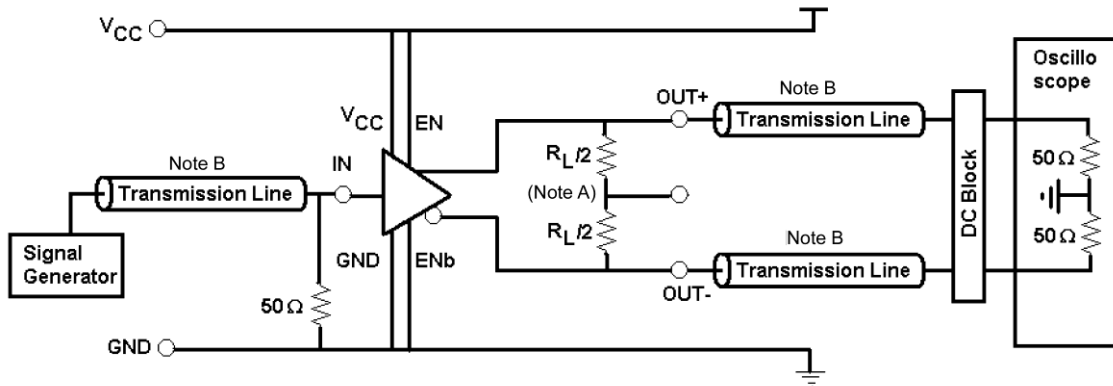
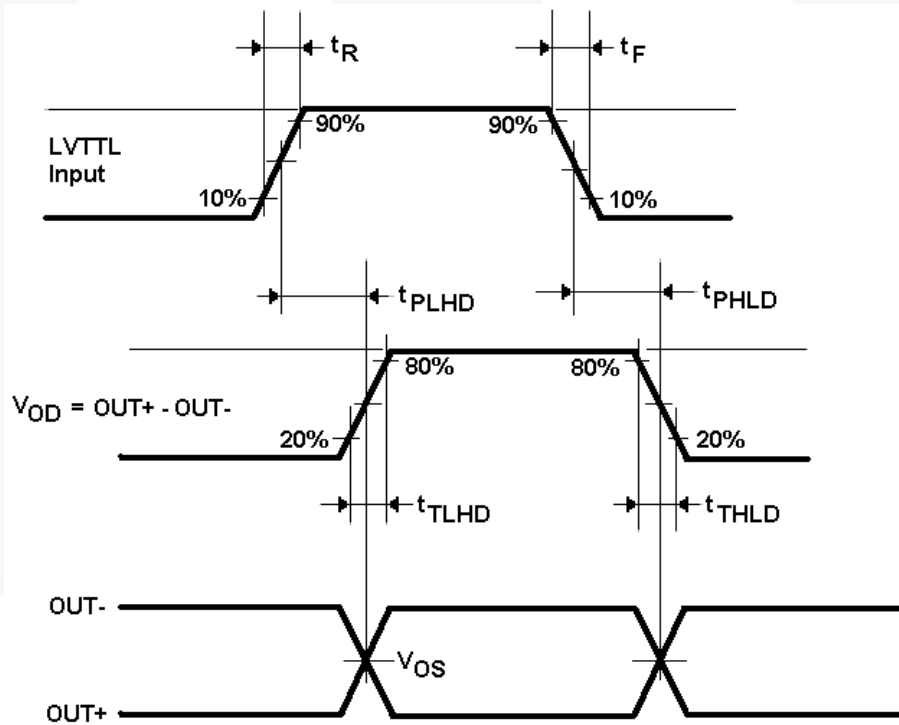

Figure 5. LVDS Output Propagation Delay and Transition Time Test Circuit
Figure 6. LVTTTL Input to LVDS Output AC Waveform
| $t_{PLHD}$                                       | Differential Propagation Delay LOW-to-HIGH  | See Figure 5, Figure 6              |      |      | 2    | ns    |
| $f_{MAXD}$                                       | Maximum Frequency (5)            | See Figure 5                        | 200  |      |      | MHz   |